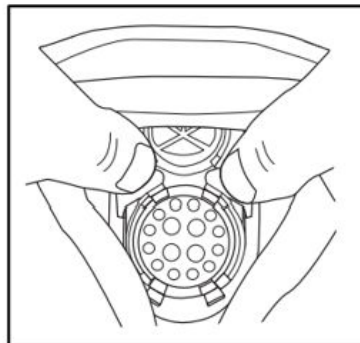

Fig.16
2. To replace, position nose cup assembly onto lens assembly by aligning hard plastic ring on nose cup with lens assembly and pressing firmly on center tabs until bottom nose cup tabs snap in place (Fig. 16).
9. Replace nose cup assembly (Fig. 16).
6. Replace nose cup assembly (Fig. 16).
13. Replace nose cup assembly (Fig. 16).